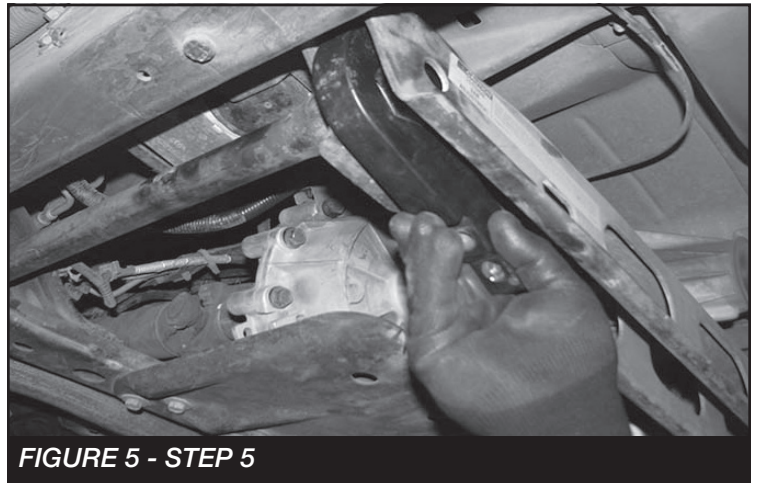

FIGURE 5 - STEP 5
5. Install the new torsion key (FT20383BK) into the original position using the supplied 12mm bolts. **SEE FIGURE 5**